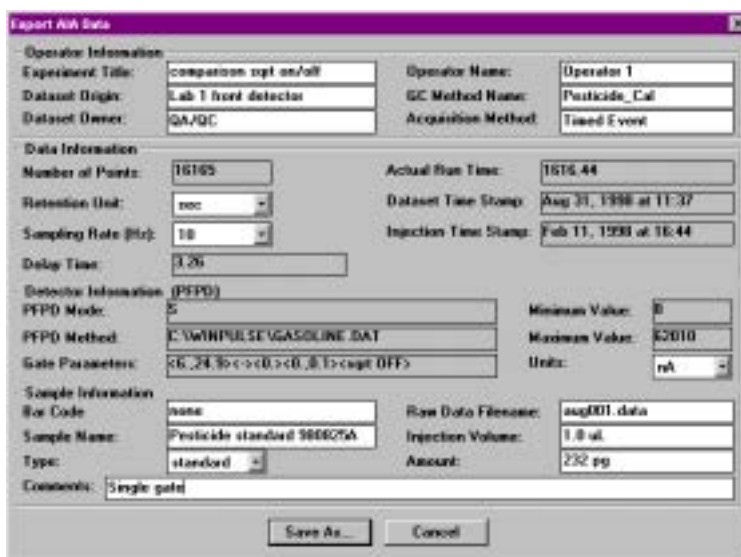

Figure 5.7. Export AIA Data Screen
3. Click **Export AIA**. This will access the Export AIA Data screen (Figure 5.7).